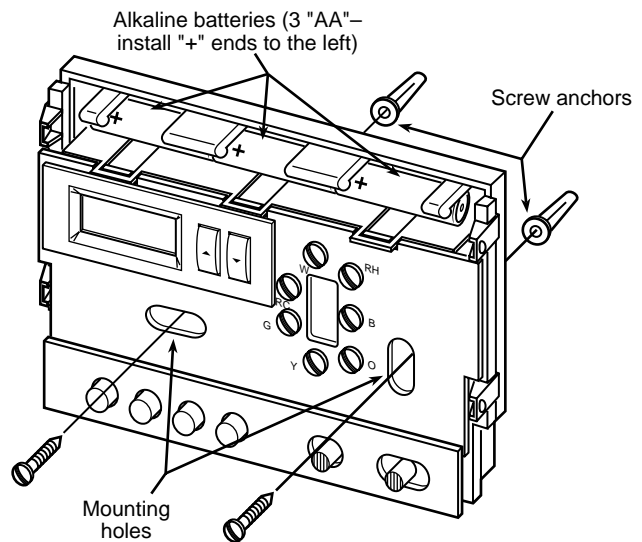

Figure 2. Thermostat base
5. Fasten base loosely to wall, as shown in fig. 2, using two mounting screws. Place a level against bottom of base, adjust until level, and then tighten screws. (Leveling is for appearance only and will not affect thermostat operation.) If you are using existing mounting holes, or if holes drilled are too large and do not allow you to tighten base snugly, use plastic screw anchors to secure subbase.
If the word **BATTERY** is displayed, the batteries are low and should be replaced with fresh "AA" Energizer® alkaline batteries. Install the batteries along the top of the base (see fig. 2). The batteries must be installed with the positive (+) ends to the left.